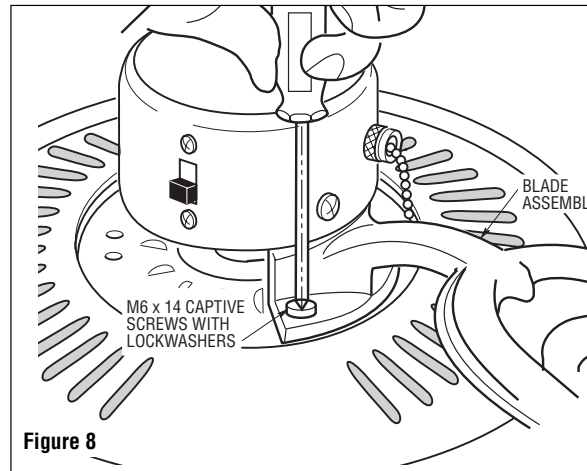

Figure 8
- Loosely attach one blade assembly to the motor hub using two M6 x 14 captive screws with lockwashers. Make sure the screws are **NOT** tightened. (Figure 8.) Repeat this procedure for other four blade assemblies.